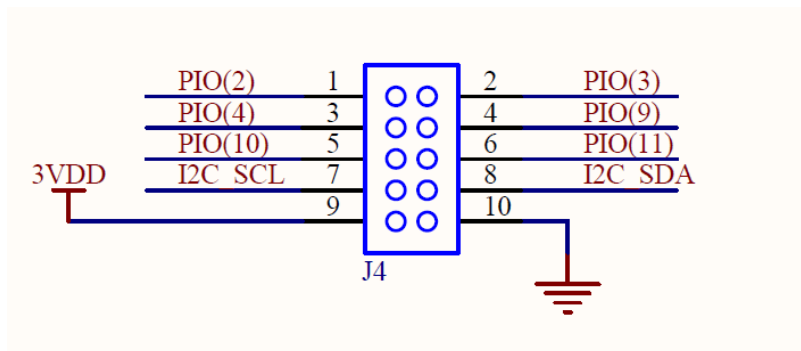

Figure 3: PIO Header (J4)
Step 1: Ensure that all jumper and switch positions on the board are as indicated in Figure 3.